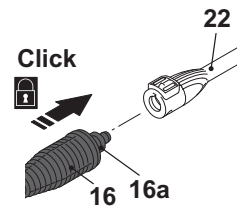

Fig. 9
- > Align the tongues (16a) of the nozzle with the grooves of the connection port of the extension lance (22) (Fig. 9).